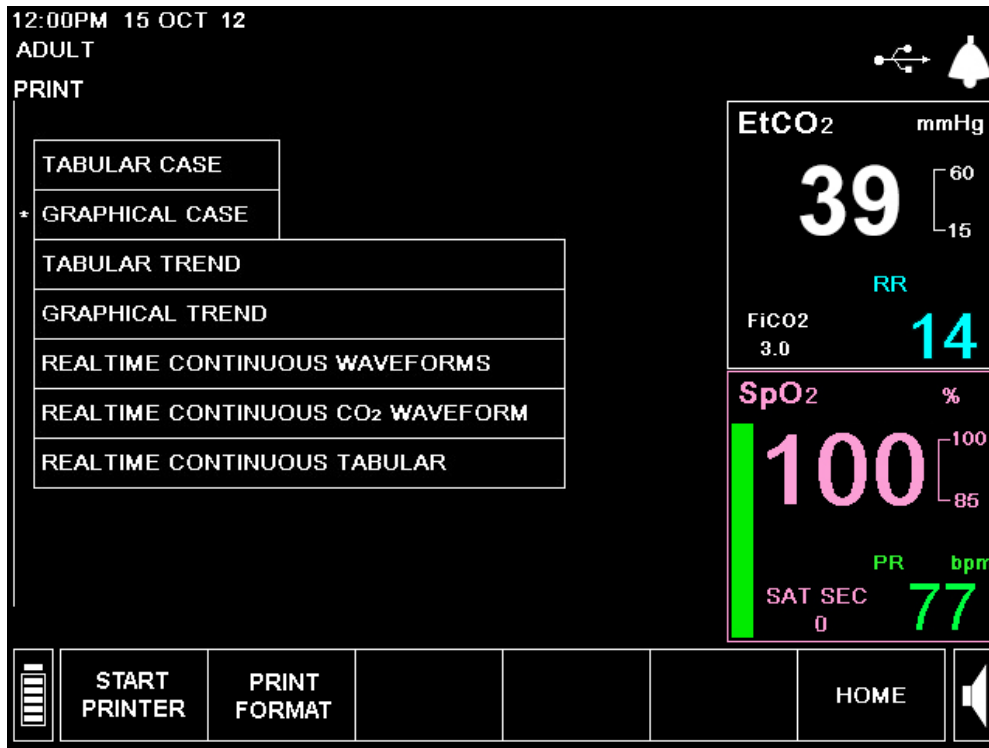

Figure 37 - Print Screen
2. On the Apnea and O2 Desat screen which will appear, select *PRINT* to display the Print screen seen in Figure 37 - Print Screen on page 102.